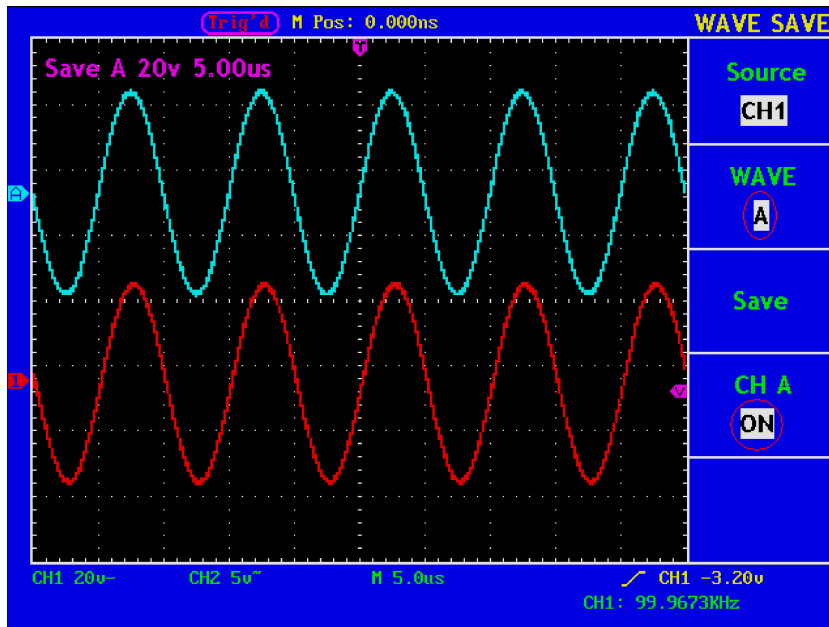

Fig. 59 Wave Saving
4. Press the **F4** menu selection button and choose **ON** for CH A. The stored wave form A will be displayed in the screen. The voltage level and time base level will also be shown at the upper left corner of the display area at the same time (see Fig.59).